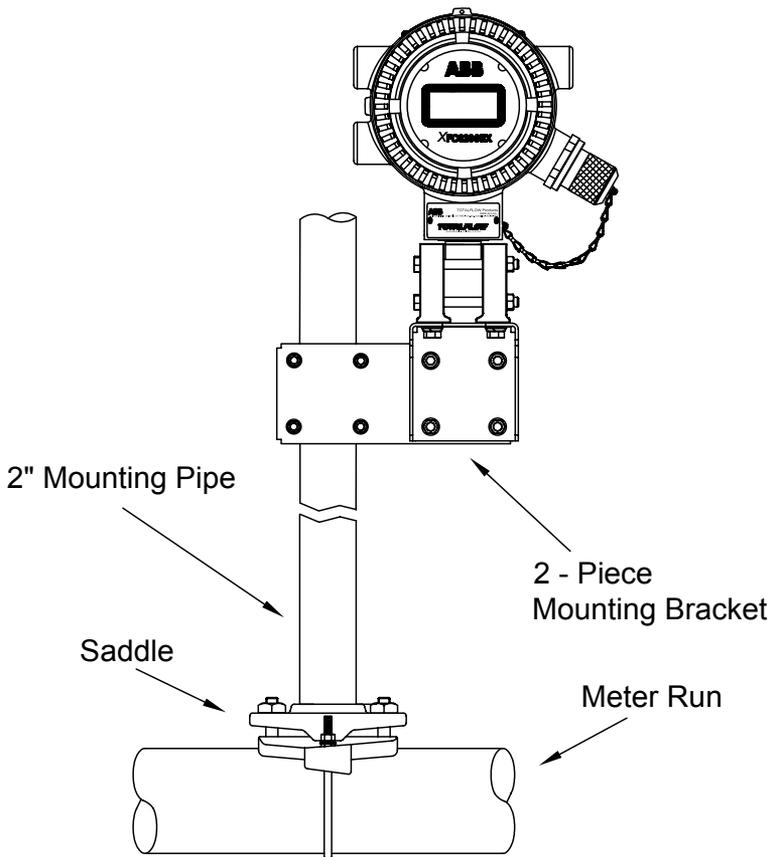
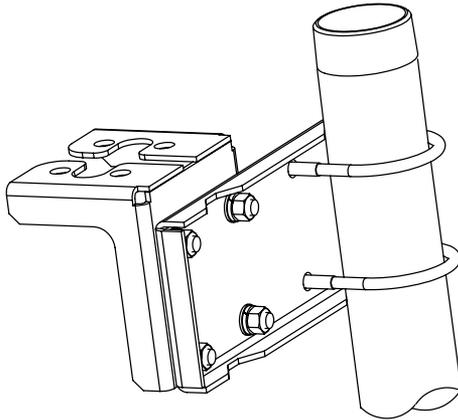
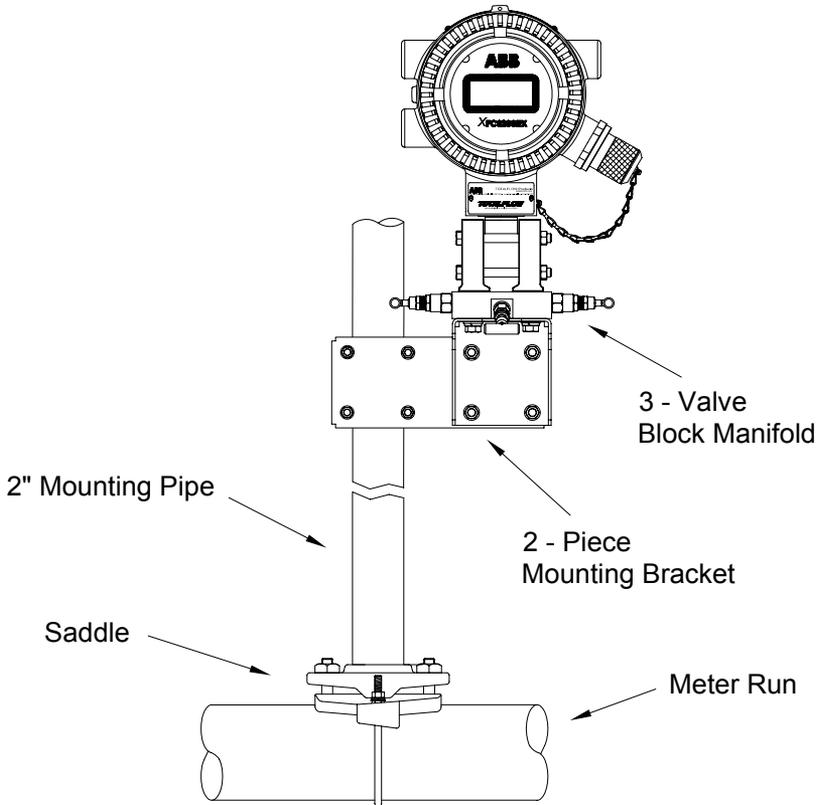

Figure 1 (Typical Installation)
Figure 2 (Side Mounting Kit P/N 2101913)
Figure 3 (Typical Block Manifold Setup)
3. Install the support for the 6200EX (pipe saddle, direct mount, standalone pipe, etc.). If mounting pipe to meter run, use a saddle mount kit as shown in Fig. 1. Different size Saddle Mount kits are available based on the meter run size. If mounting the 6200EX to a pipe, use the 2-piece bracket Mtg. kit (Pt. # 210193) as shown in Fig. 2. Attach the side mount bracket to the 2" pipe with the two U-bolts and then attach the 6200EX Mtg. bracket with available hardware. The 6200EX can be on either side of the pipe depending on how the side mount bracket is mounted (See Fig. 1). Use silicone spray or Teflon tape to prevent galling of threads.
4. The method of mounting the 6200EX using the bracket mounting kit depends on whether a discrete or block manifold is used. For discrete manifolds, mount the 6200EX directly to the bracket as shown in Figure 1 and then screw the tubing from the discrete manifold into the bottom of the 6200EX's transducer. If a block manifold is used, sandwich the manifold between the 6200EX's transducer and the top of the bracket as shown in Figure 3. Block manifolds as shown in Figure 3 can be mounted with four bolts inserted up through the bottom of the bracket, through the manifold and into the threaded holes of the 6200EX transducer. Larger block manifolds with flanges on top and bottom will require separate hardware to mount the manifold to the 6200EX's transducer and then